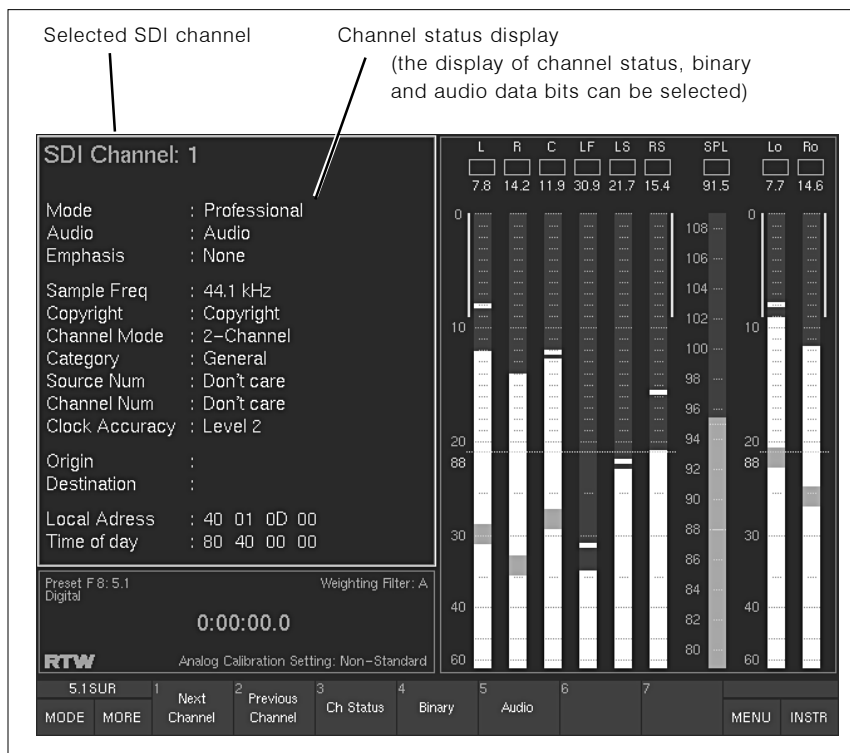

Fig. 5-38: The SDI channel status monitor (SDI STATUS)
(Button/key 4, see Fig. 5-38 – toggle function linked to Ch Status)
(Button/key 5, see Fig. 5-38)